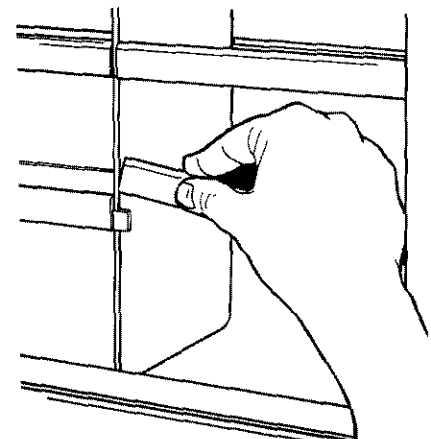
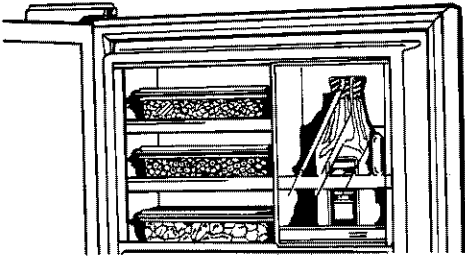

FIGURE 67
FIGURE 68
3. Replace the front trim by sliding the trim into the compartment area without the shelf. See Figure 67. When the shelves are removed either one or both sides can now be used as a tall package shelf. See Figure 68 and 69.